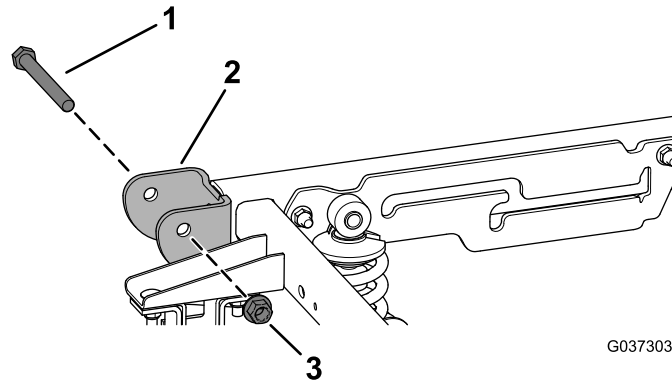

Figure 3
3. Remove the 2 pivot bolts (1/2 x 4-1/2 inches) and 2 locknuts (1/2 inch) from the pivot bracket located at the rear of the machine (Figure 3).